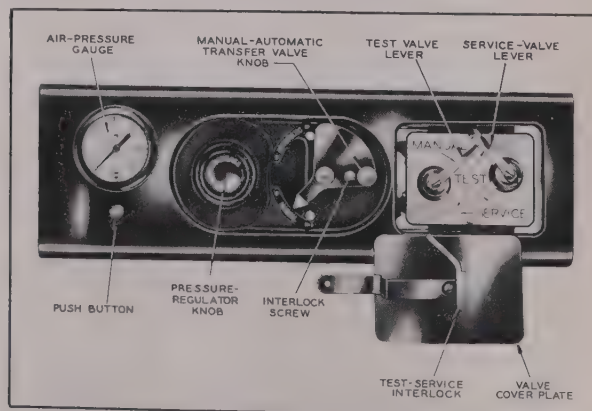
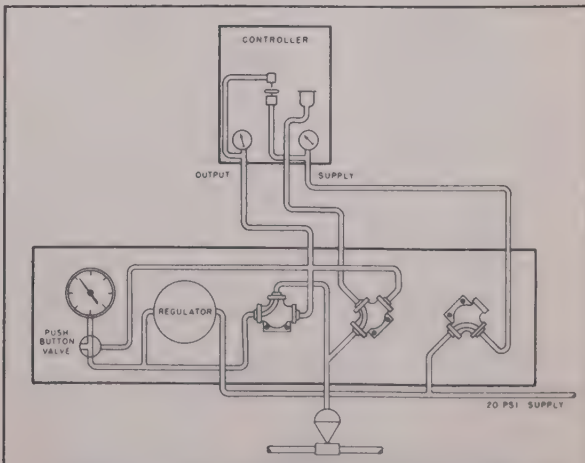

FIGURE 5. FRONT VIEW OF EXTERNAL STATION WITH VALVE COVER PLATE REMOVED
FIGURE 14. SCHEMATIC DIAGRAM OF EXTERNAL STATION IN MANUAL POSITION
1. Automatic Position. (See Figure 5.) In the automatic position, the process is under complete automatic control. Turning the pressure-regulator-valve knob on the panel will change the reading on the panel air-pressure gauge but will have no effect on the process. Pushing the equalizing push button will make the panel gauge read the output-air pressure of the controller as shown on
2. Manual Position. (See Figure 5.) In the manual position, the process is under complete manual control. Turning the pressure-regulator-valve knob on the panel will change the position of the control valve and affect the process. By allowing the manually controlled pressure to go to the controller as well as the control valve (see schematic diagram, Figure 14), the reset system is automatically balanced and always ready for changing back to automatic control.
3. Test Position. (See Figure 5.) The test position is set up by turning
Although this test position unbalances the reset system (relative to the measured variable), it can be seen by the valve-handle arrangement in Figure 5 that it is impossible to switch to automatic control without going through the manual position. As explained in the preceding paragraph,
4. Service Position. (See Figure 5.) The service position is set up by turning the manual-automatic valve to the manual position and loosening the interlock screw until the valve cover plate can be removed. Then turn the test valve lever down; turn the service valve lever down.